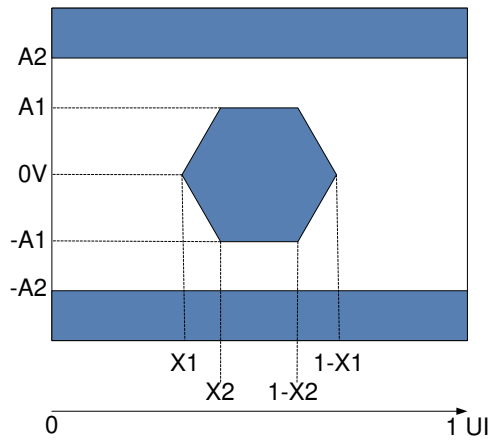

图 5-11. HSSI Eye Characteristics
- (1) All power supply connections are required to operate the DMD: V_{DD} , V_{DDA} , V_{OFFSET} , V_{BIAS} , and V_{RESET} . All V_{SS} connections are required to operate the DMD.
- (2) All voltage values are with respect to the ground pins (V_{SS}).
- (3) To prevent excess current, the supply voltage delta $|V_{DDA} - V_{DD}|$ must be less than the specified limit.
- (4) To prevent excess current, the supply voltage delta $|V_{BIAS} - V_{OFFSET}|$ must be less than specified limit.
- (5) Supply power dissipation based on three global resets in 200 μs .
- (6) LVC MOS input specifications are for pin DMD_DEN_ARSTZ.
- (7) LVC MOS output specification is for pins LS_RDATA_A and LS_RDATA_B.
- (8) Refer to 图 5-11, Receiver Eye Mask (1e-12 BER).
- (9) Defined in the *Recommended Operating Conditions*
(5) See 图 5-11 for rise time and fall time for HSSI Eye Characteristics.